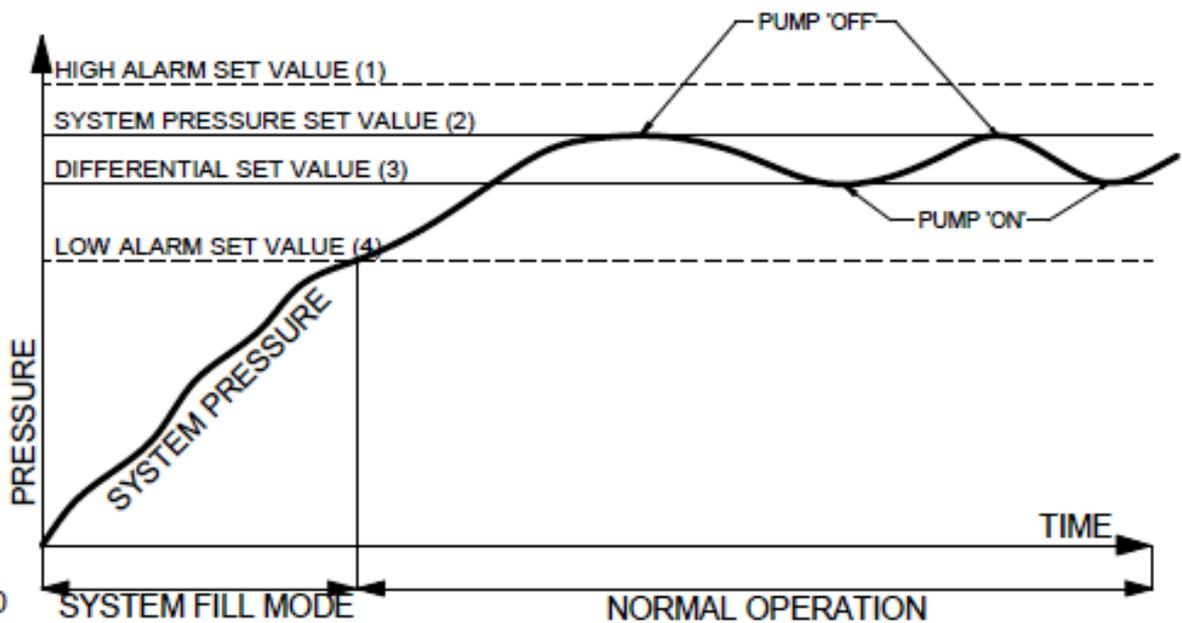

Fig. 20
System pressure (2) see Fig. 20	Sets the required system pressure. Set in 0.1 bar increments up to the maximum set value for the Flowpress Midi model. Flowpress Midi 130 & 230, 3.5 bar max., Flowpress Midi 150 & 250, 4.1 bar max.
Differential pressure (3) see Fig. 20	Sets the pressure the Flowpress Midi will turn on at as the system pressure falls. Relative to the system pressure. Set in 0.05 bar increments below the System pressure (2), cannot be set above 0.1 bar below the System pressure (2).
Hi Alarm (1) see Fig. 20	Sets high system pressure alarm. Set in 0.05 bar increments above the System pressure (2). Cannot be set below System pressure + 0.05 bar. Alarm auto resets when system pressure is reduced below alarm level.
Lo Alarm (4) see Fig. 20	Sets low system pressure alarm. Set in 0.05 bar increments below the System pressure (2) - Differential pressure (3) - 0.05 bar. Alarm auto resets when system pressure is increased above alarm level